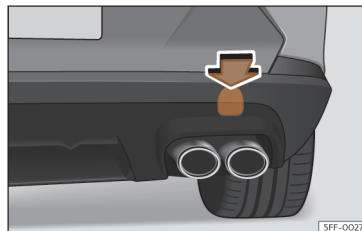

Fig. 203 Rear bumper on right: remove the lid.
The housing of the screw towing eye is on the right side of the rear bumper behind a lid >>> **Fig. 203**.
- Press the upper side of the lid >>> **Fig. 203** to unclip it.